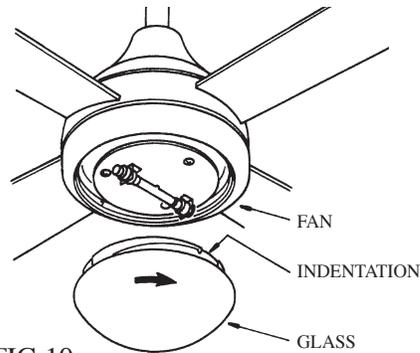

FIG.10
3. Position the indentations in the outer rim of the glass shade so that they line up with the tabs on the inside surface of the fan light fixture rim. Carefully lift the glass shade up inside the light fixture rim. Rotate the shade in a clockwise direction until it is held tightly in place by the three tabs (see FIG 10).